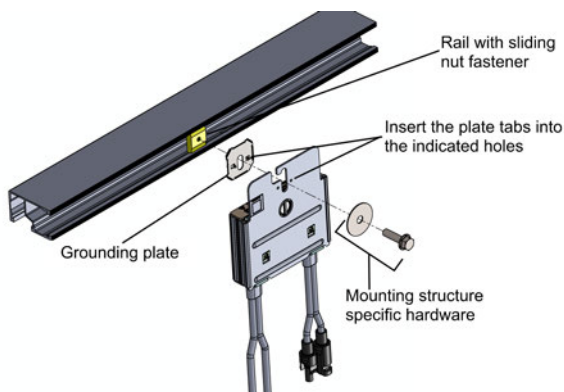

Figure 5: Power optimizer installation and grounding using a grounding plate
- **For mounting on rails with sliding nut fasteners:** If the star washer cannot be used, use the SolarEdge grounding plate (purchased separately) between the railing and the flat side of the mounting bracket. Use mounting specific hardware as needed. Apply torque of 9.5 N*m / 7 lb*ft. See Figure 5